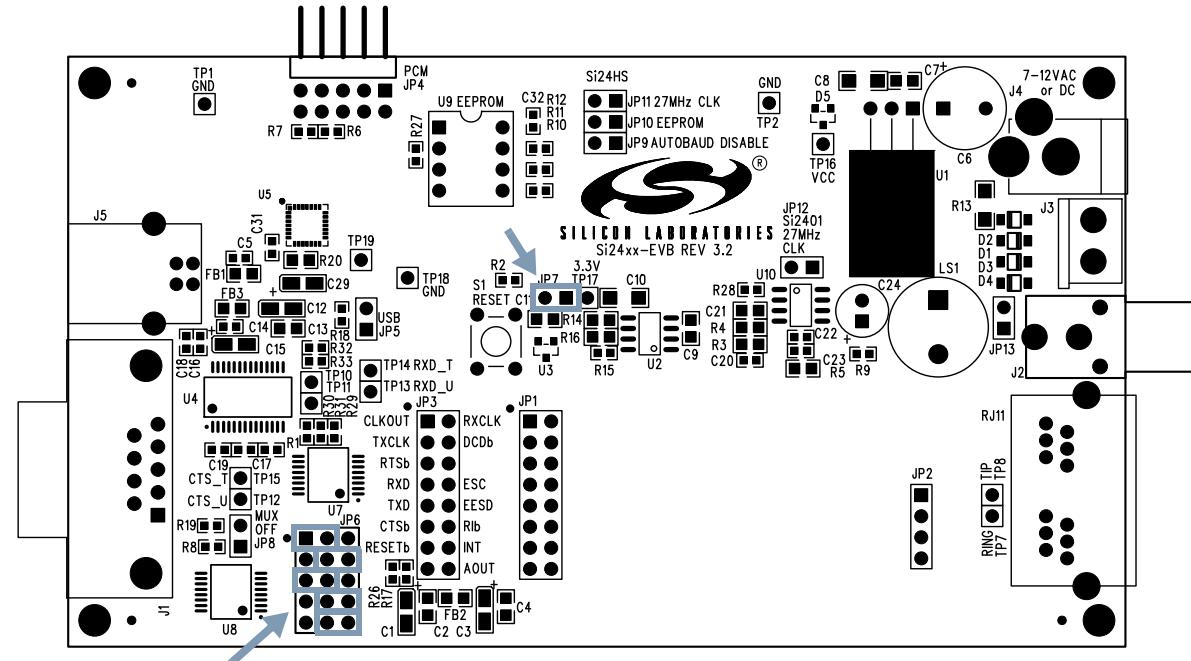

Figure 1. Standard Factory Jumper Settings—RS-232 Interface (Outlined in Gray)
1. Set jumpers according to Figure 1.
Check all jumper settings on the Si2401FS10-EVB before applying power. Figure 1 shows the standard factory jumper settings. These settings configure the Si2401FS10-EVB for RS-232 serial operation. Any standard terminal program configured to communicate through a PC COM port can be used to communicate with the Si2401FS10-EVB. To connect the modem directly into an embedded system with LVCMS/TTL levels, install JP8 to disable both the RS-232 and USB interfaces. Connection to the embedded system can be made to JP-3. Place a jumper on JP13 to enable the onboard speaker, LS1.
This operation mode uses the standard factory jumper settings illustrated in Figure 1 on page 3. The Maxim MAX3237 transceiver interfaces directly with the TTL levels available at the serial interface of the Si2401 and, using internal charge pumps, makes these signals compatible with the RS-232 standard. The RS-232 transceiver on the Si2401FS10-EVB can communicate at rates between 300 bps and 1 Mbps. This simplifies the connection to PCs and other Data Terminal Equipment (DTE). The signals available on the Si2401FS10-EVB serial interface (DB9 connector) are listed in Table 4.